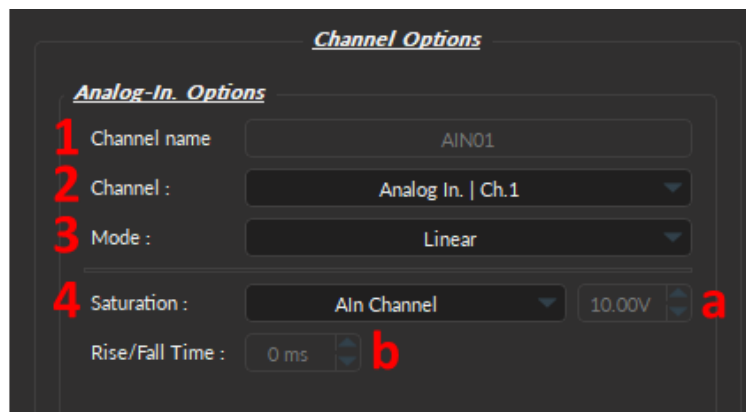
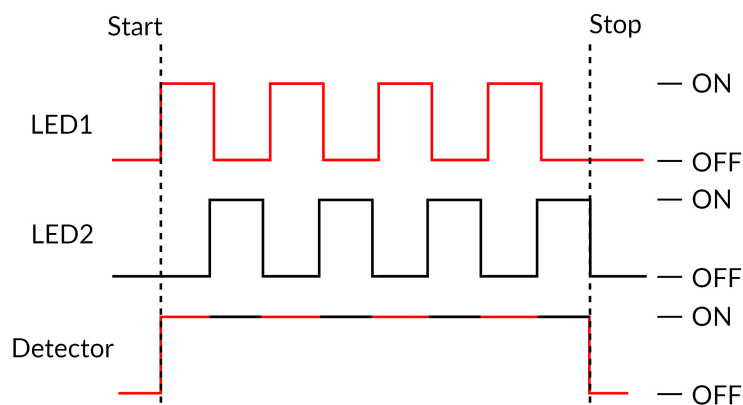
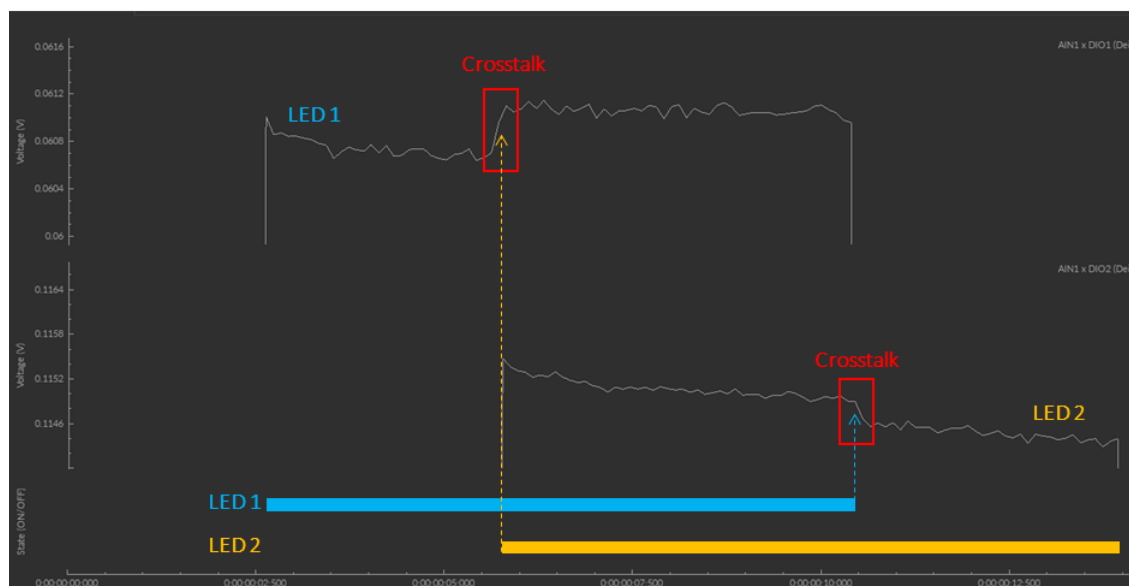

Figure 5.27: Channel(s) configuration window, Analog Input - Channel Options
Figure 5.29: Interleaved Acquisition Timing Diagram
Figure 5.30: Interleaved Cross-talk
The **Channel Options** (Fig. 5.27) defines the channel, source and mode of the digital signal, as following:
1. The **Channel name** (Fig 5.27, 1) allows user to specify a label for each channel.
2. The **Channel** (Fig 5.27, 2) identifies which of the channels available for each channel type is currently being modified. The channel can be changed by selecting a new one from the drop-down list. Each numbered channel on the physical console corresponds to the same number of the digital channel within the software.
4. The **Saturation** (Fig. 5.27, 4) automatically sets the following parameters and depends on the detector acquiring the data (Detectors: *Doric detector*, *Newport Detector*, *Hamamatsu C10709*, and *Aln Channel*):
- a) The **Maximum Voltage** (Fig. 5.27, 4a)
- b) The **Rise/Fall Time** (Fig. 5.27, 4b)
The **Interleaved** channel mode allows two channels to send an alternating pulsed signal of opposite phase for two separate light sources. Each source can excite a different fluorophore, which allows the detection of two separate fluorescence signals coming from the same sample using a single channel (Fig. 5.29).
The interleave preset is using 50% duty cycle for each LED, without delay between them (Fig. 5.29). Thus, depending on the Rise/Fall time of the detector in use (Fig. 5.27, 4b, Detector Rise/Fall Time), there will be more or less crosstalk between the interleaved channels (Fig. 5.30).
Specifically, when one of the digital channels is ON, it will pick up when the other is turned ON or OFF (Fig. 5.30). Figure 5.30 shows how the Digital Output channel of LED 1 has a small increase in voltage when LED 2 is turned ON. And, conversely, there is a small dip in voltage in the LED 2 channel when LED 1 is turned OFF (Fig. 5.30).
1. The **Enable** (Fig. 5.34, 1) row lets users select which output channel to include in the Lock-In settings by clicking the respective check boxes. Each column corresponds to an Analog Out channel of the console (in order, such that left most column = AOUT1). Users should enabled the output(s) channels that will be driving the input specified in Fig. 5.27, 2.
- The **AIN #** corresponds the console Analog In port number that receives the raw (non-demodulated) signal from the detector. To change the **AIN #**, select a different **Channel** number from the **Analog In Options** box (Fig. 5.27).